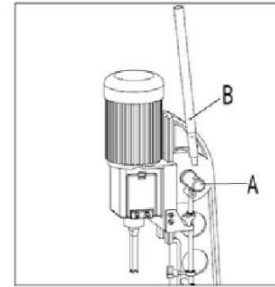

Fig 2
1. Assemble hub of handle assembly (A) Fig. 2.